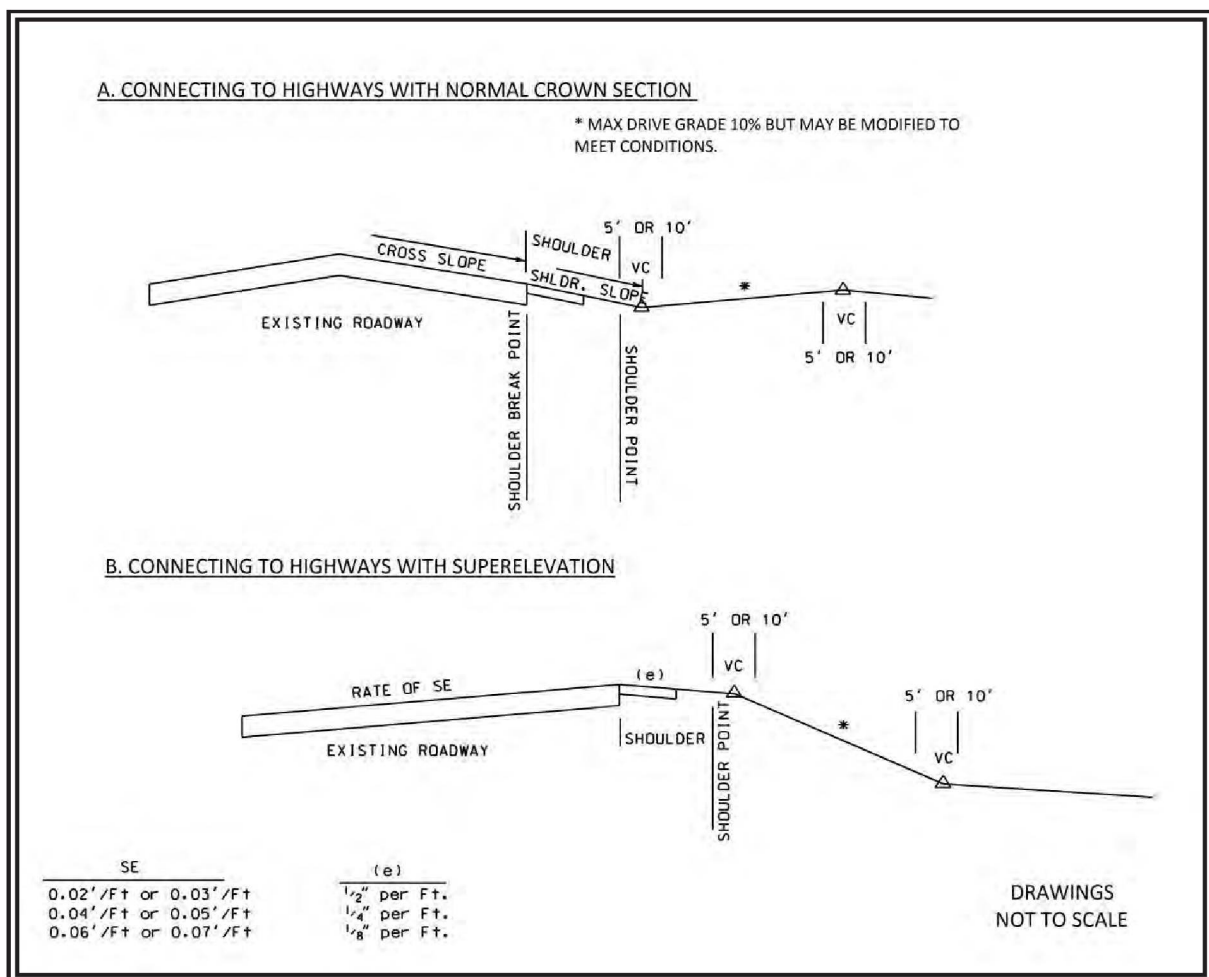

Figure 4-6 Allowable Driveway Grades
In general, the grade of the driveway should be a continuation of the cross slope of the roadway that it connects to. Figure 4-6 illustrates allowable grades for driveways connecting to State Highways.
Figure 4-6 (A) shows the profile of a driveway connecting to the normal cross section of a highway. The cross slope of the highway should be maintained for a minimum distance of 12' beyond the edge of pavement.